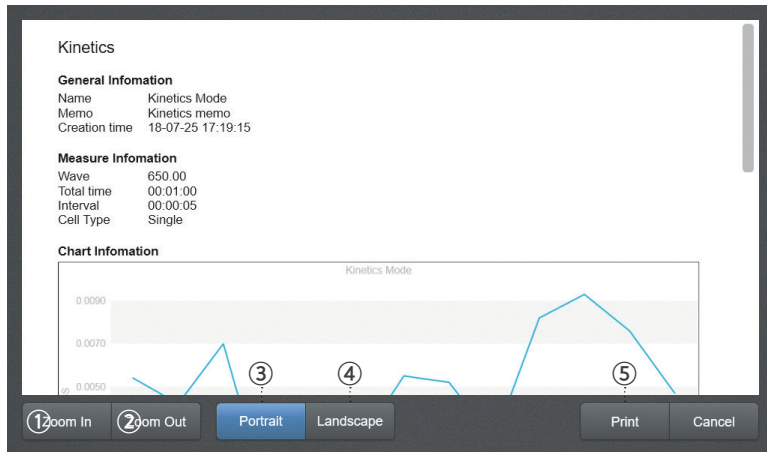

Fig. 6.13
8. [Fig. 6.13] You can zoom in or out on the printing details using the ① **Zoom In** or ② **Zoom Out** buttons.
9. [Fig. 6.13] You can check or print in landscape or portrait mode using the ③ **Portrait** and ④ **Landscape** buttons.
10. [Fig. 6.13] Check the details to print and press the ⑤ **Print** button to open the print settings screen.